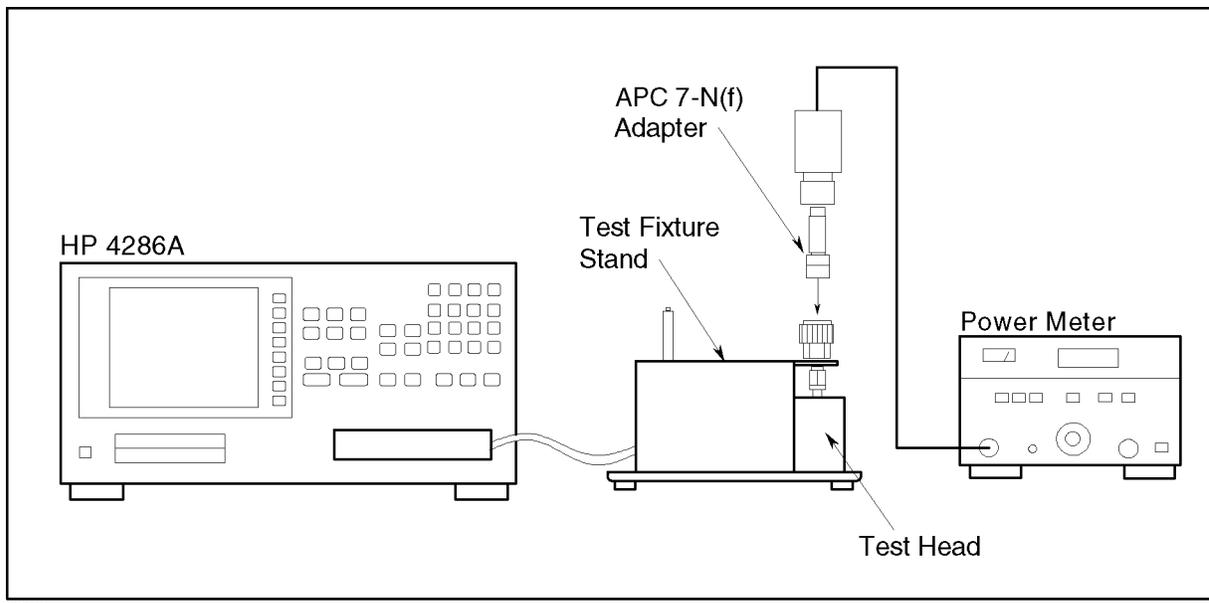

Figure 2-2. OSC Level Accuracy Test Setup
3. Connect the power sensor to the test head as shown in Figure 2-2.